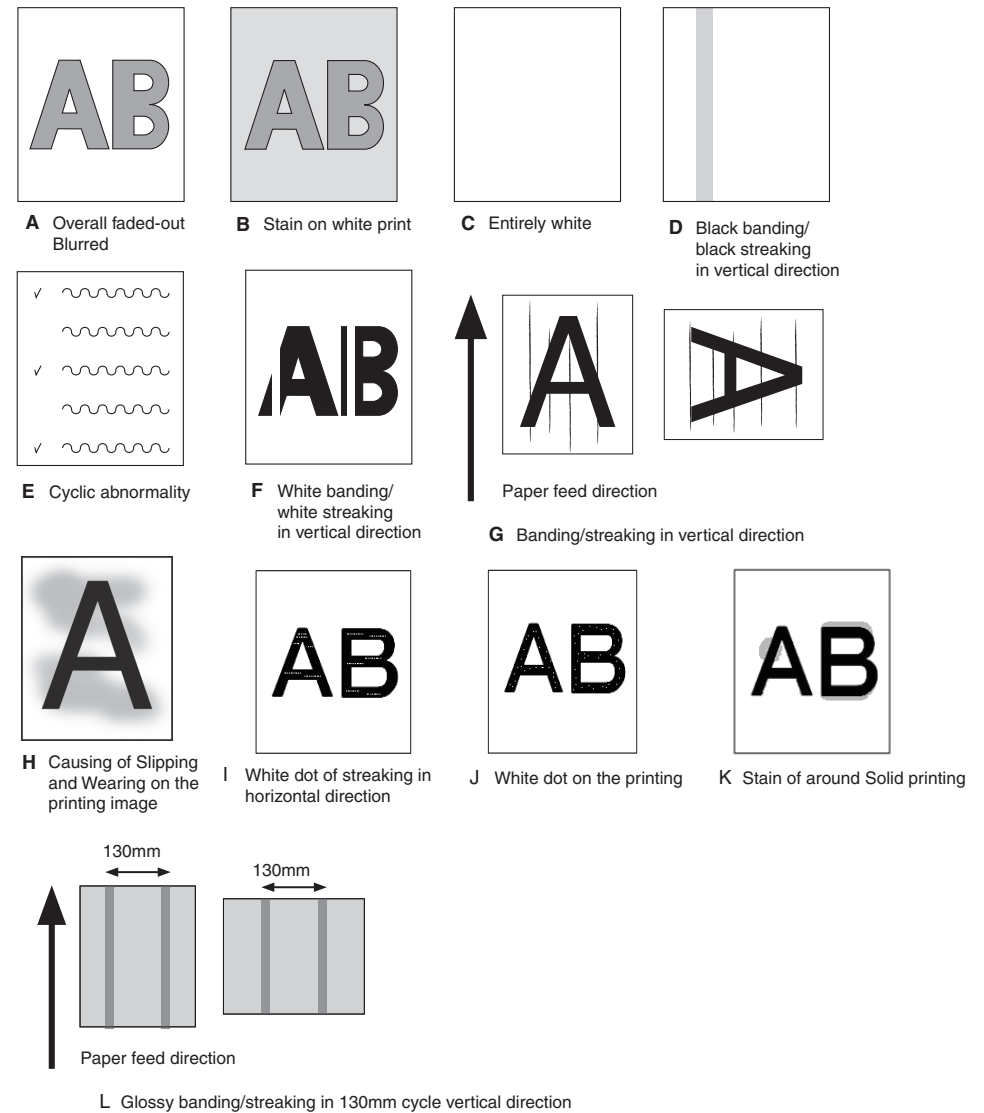

Figure 4-2
- (1) Color has faded-out and blurred entirely. (Refer to Figure 4-2 A) 4-80
- (2) Stain on white print. (Refer to Figure 4-2 B)..... 4-81
- (3) White print (Refer to Figure 4-2 C)..... 4-82
- (4) Black banding/black streaking in vertical direction..... 4-82
- (4-1) Thin vertical line (with color) (Refer to Figure 4-2 D)..... 4-82
- (4-2) Thin vertical line (without color) (Refer to Figure 4-2 F) 4-82
- (5) Periodic abnormalities (Refer to Figure 4-2 E)..... 4-83
- (6) Significant color misregistration 4-83
- (7) Solid black printing..... 4-84
- (8) Banding/streaking in vertical direction..... 4-84
- (8-1) Banding/streaking in vertical direction (Refer to Figure 4-2 G) 4-84
- (8-2) Causing of Slipping and Wearing on the printing image (Refer to Figure 4-2 H)..... 4-84
- (9) White dot on printing..... 4-85
- (9-1) White dot of streaking in horizontal direction (Refer to Figure 4-2 I) 4-85
- (9-2) White dot on the printing (Refer to Figure 4-2 J) 4-85
- (10) Stain of around Solid printing..... 4-85
- (10-1) Stain of around Solid printing. (Refer to Figure 4-2 K) 4-85
- (11) Glossy banding/streaking in 130mm cycle vertical direction 4-85
- (11-1) Glossy banding/streaking in 130mm cycle vertical direction (Refer to Figure 4-2 L) 4-85
- (12) The thick horizontal line is printed..... 4-86
4.5.3.(1) Color has faded-out and blurred entirely. (Refer to Figure 4-2 A)
4.5.3.(2) Stain on white print. (Refer to Figure 4-2 B)
4.5.3.(3) White print (Refer to Figure 4-2 C)
(4-1) Thin vertical line (with color) (Refer to Figure 4-2 D)
(4-2) Thin vertical line (without color) (Refer to Figure 4-2 F)
4.5.3.(5) Periodic abnormalities (Refer to Figure 4-2 E)